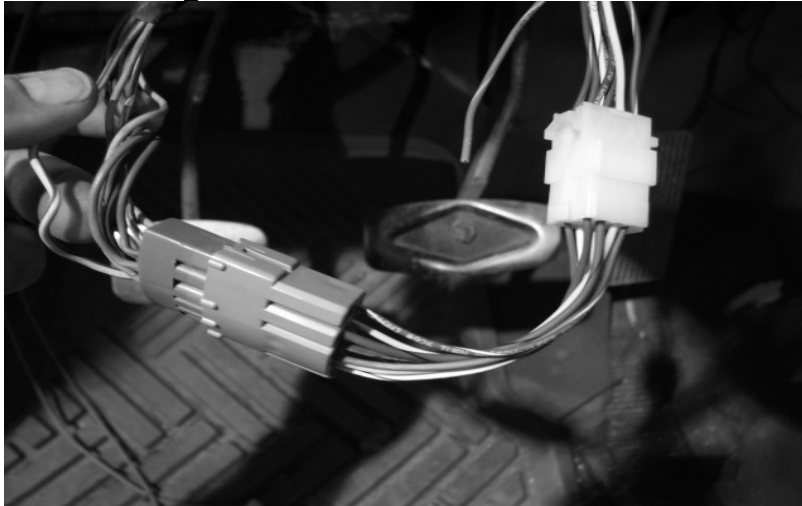

Figure 7-15 Late Model Turn Pigtail ('73-'77)
- 7.6.2** On 1973-1977 Model Trucks it will be necessary to use the provided “Late Model Turn Pigtail”, when connecting the turn signal switch. The connectors for the late model switches ARE NOT available and are therefore not included in this kit. Both the connector and the “RED” terminal lock on the inside will need to be reused. Using a small flat screwdriver and/or a small pair of needle nose pliers, gently pry out the lock and remove the original wires. The pigtail wire colors match the original colors from the old harness. **See Figure 7-15. Note: If using a Tachometer, notice the signal wire for it is in the Turn Signal breakout of the harness.**